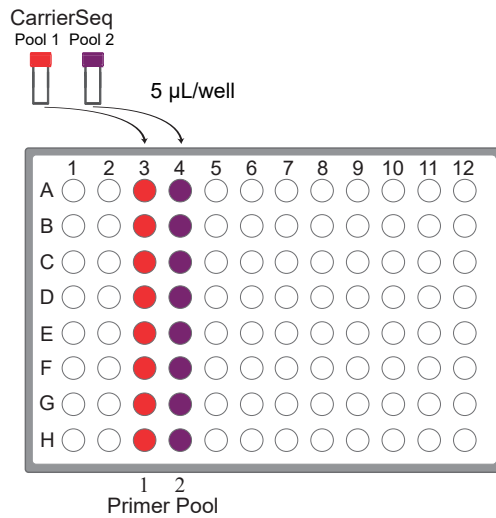

Figure 1
- One well is used to amplify the targets for Pool 1 and the other for Pool 2, see Figure 1.
- For each sample, add components to each pair of wells using a low volume pipettor, as described in the following table. See the plate layout example in Figure 1.